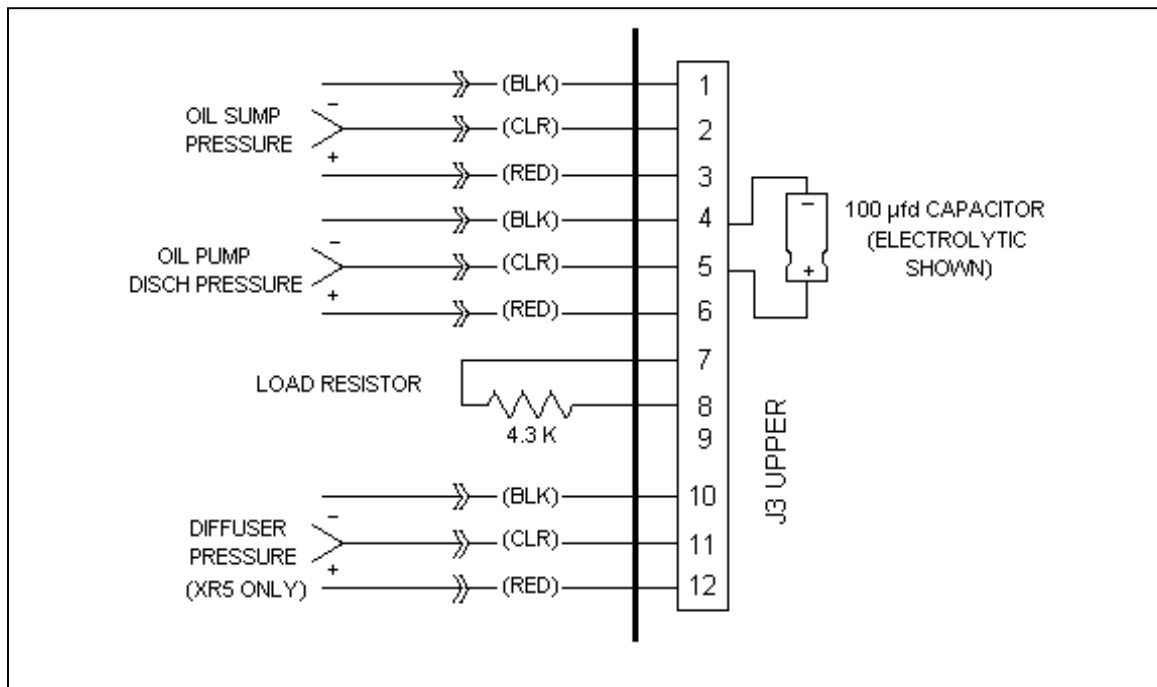

Figure 1. Wiring Diagram for Capacitor Placement
Corrective action is intended primarily to address the situation described in cases (1) and (3) above. On all 19XR chillers (or compressors) in which a problem with low oil pressure alarms arises, install a 100 microfarad capacitor, rated for 16 volts or higher, between terminals 4 and 5 on the upper J3 plug as shown in Figure 1 below. (If the capacitor is of the electrolytic type, with a + or - polarity indicated, attach the "-" end to J3-4.) The capacitor smoothes out the oil pump discharge pressure transducer signal without substantially affecting oil pressure sensing.